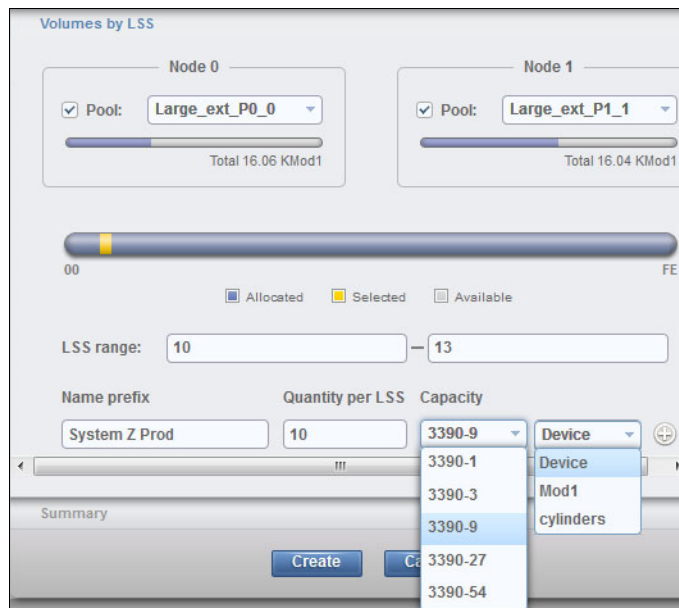

Figure 11-100 Create CKD Volumes: Advanced: Volumes by LSS
6. Now click the **Volumes by LSS** tab to display the Volumes by LSS window, as shown in Figure 11-100.